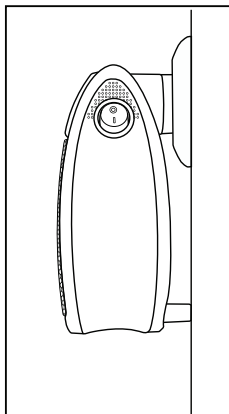

Fig. 1
- The appliance may only be operated in an upright position and fully assembled. The spacers **10** must touch the wall (see fig. 1).